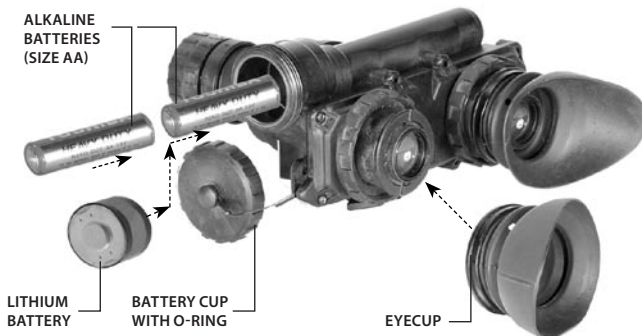

FIGURE 3-2. BATTERY AND EYE CAP INSTALLATION
3. Observe the polarity markings on the outside of the battery compartment and insert either two AA, 1.5 Volt batteries or one 3.0 Volt BA-5567/U lithium battery into the battery compartment, plus (+) end first. (**See Figure 3-2**)
C. Installation of the Eyecups. Perform the following procedure to install the eyecups onto the PVS-7. Refer to Figure 3-2.